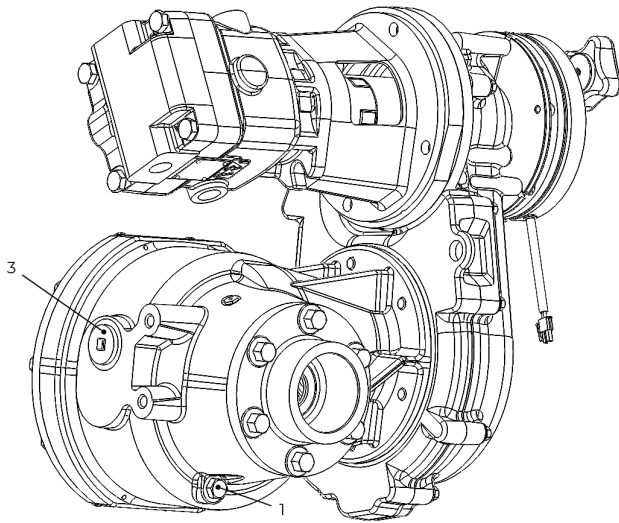

Figure 43. Cast-iron Case Drain and Filler Plugs.
3. Remove the cast-iron case filler plug (3) (Figure 43).